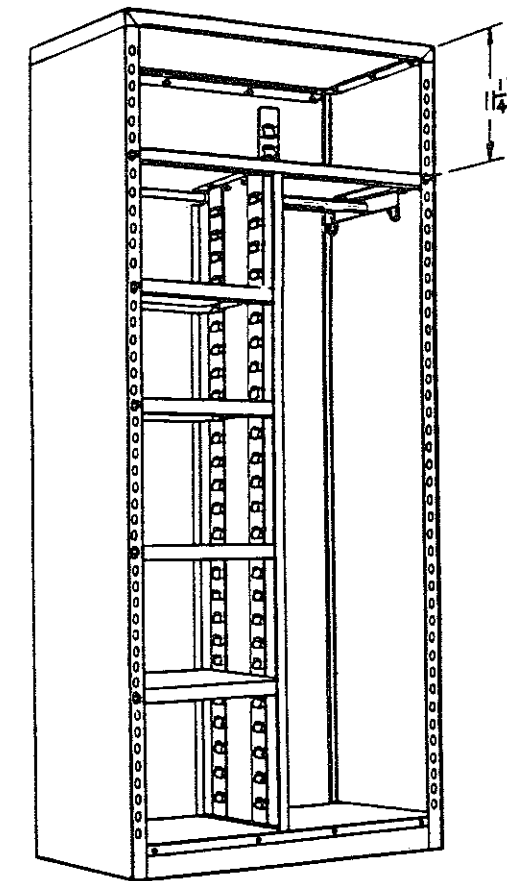

FIG. 11
2. FASTEN ONE (1) HANGER BAR BRACKET UNDER END OF SHELF WITH #10-24 x 3/8" TRUSS HEAD BOLTS & NUTS. INSTALL SHELF ASSEMBLY INTO CABINET AT LOCATION SHOWN IN FIG. 11.